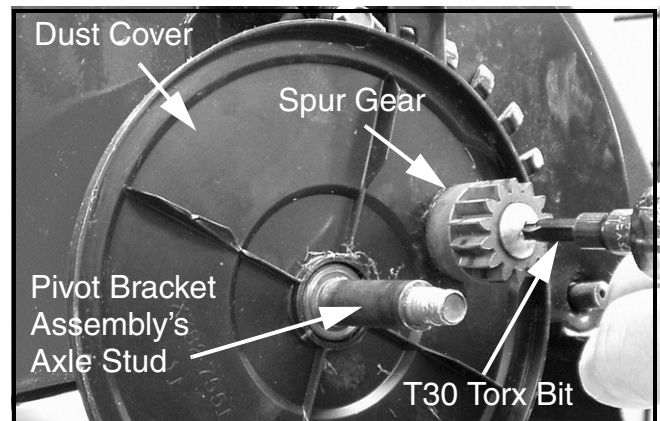

FIGURE 6
14. Using a T30 Torx bit and ratchet and holding the vise grip pliers to keep the transmission axle from rotating, remove the Torx head screw retaining the spur gear to the transmission's output shaft. Note the assembly sequence as you remove the spur gear, dowel pin, flat washer and wheel dust cover. See Figure 6.